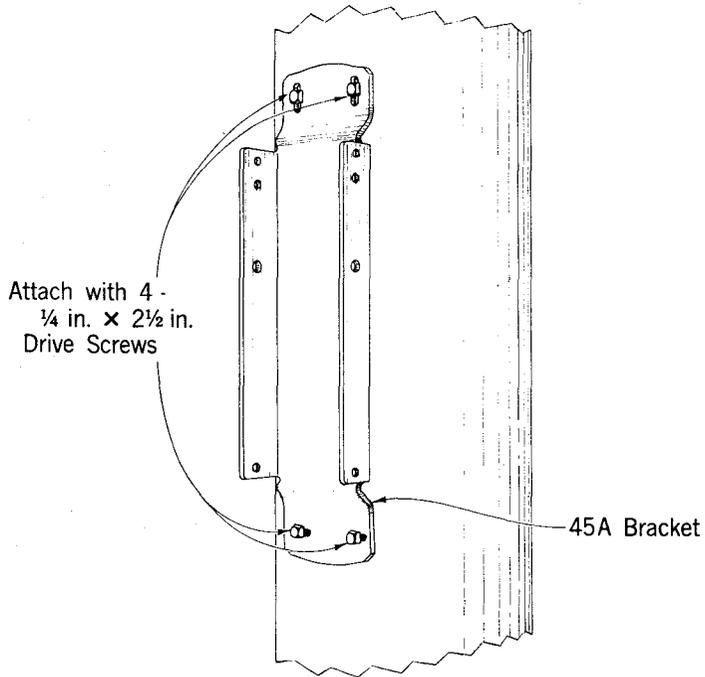

Fig. 23—Attaching 45A Mounting Bracket To Pole
- (1) Attach the 45A bracket as shown in Fig. 23.